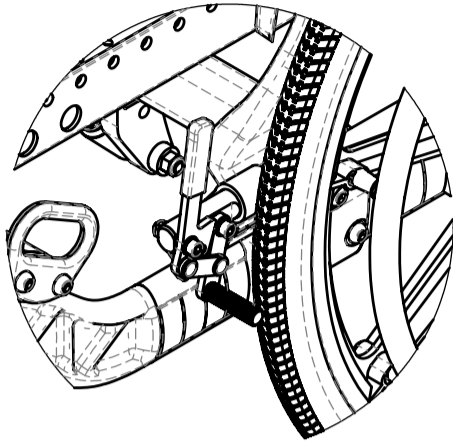

Figure 14.32: Push to Lock Wheel Locks (Standard)
1. To engage the push to lock wheel lock (see Figure 14.32), push the lever forward, away from the wheel, until it locks into place.